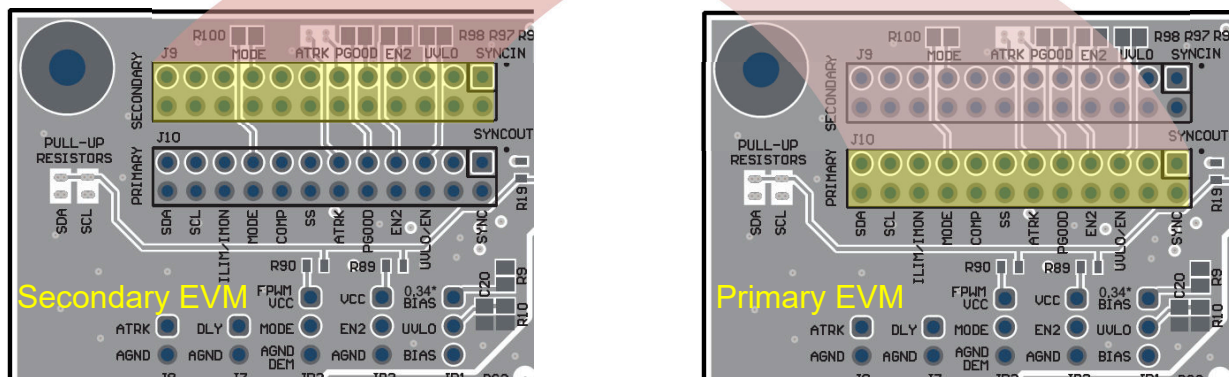

Figure 4-2. Connecting the Primary EVM and Secondary EVM with Ribbon Cable
4. Connect J10 of the primary EVM and J9 of the secondary EVM with ribbon cable. Refer to Figure 4-2.